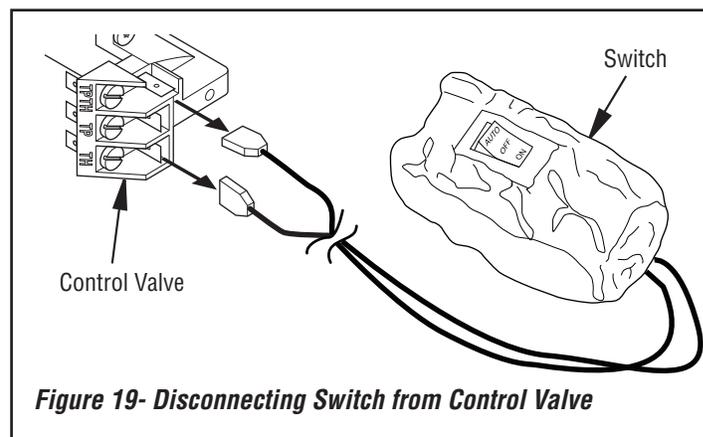

Figure 19- Disconnecting Switch from Control Valve
6. If installed, disconnect AUTO/OFF/ON switch wire from control valve at TPTH and TH locations (see *Figure 19, page 14*).
7. Connect wires from hardware pack (with remote receiver bracket) to control valve at the TPTH and TH locations as shown in *Figure 19, page 14*. Connect other ends of these wires to remote receiver wires.